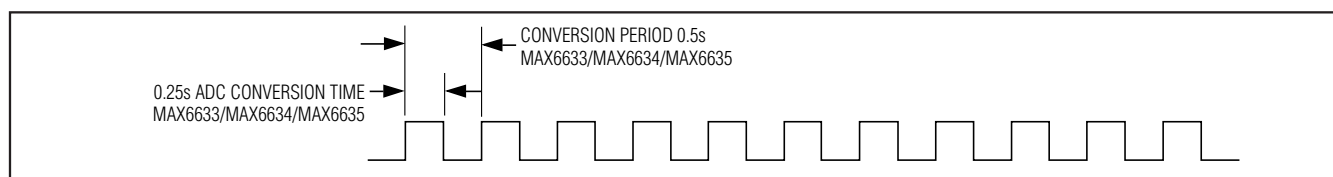

Figure 4. ADC Conversion Timing Diagram
**Note 2:** Peak operating current measured during conversion. See Figure 4.